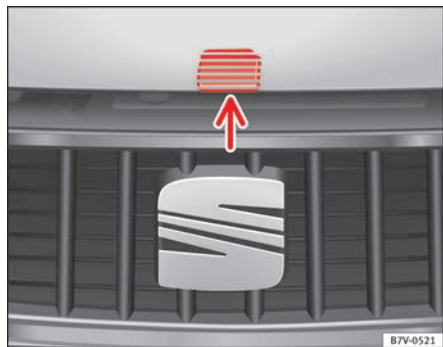

Fig. 167 Release lever to open the bonnet in the radiator grille.
- Lift the bonnet using the release lever ⇒ fig. 167 (arrow) and open the bonnet fully. The bonnet is held open thanks to the gas strut.